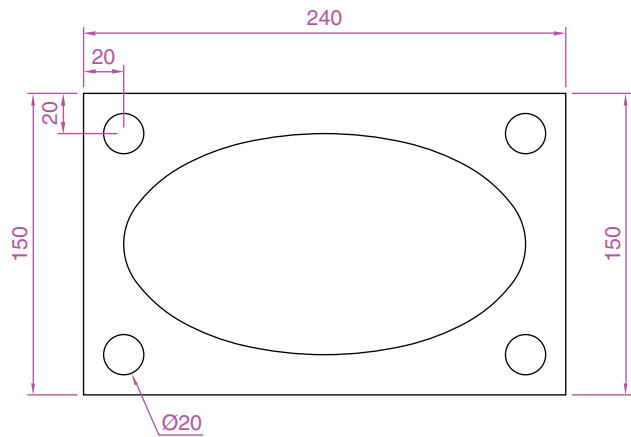

Fig. 3.35 Exercise 4
4. With the **Line**, **Circle** and **Ellipse** tools construct Fig. 3.35.